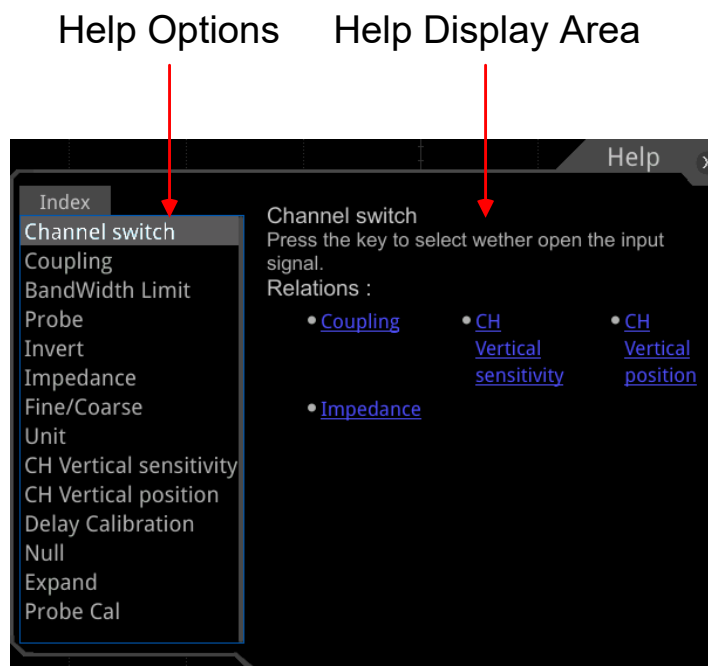

Figure 9.1 Help Information
2. Press the **Content** menu key or tap the "Content" menu item, then the help information is displayed on the screen, as shown in *Figure 9.1*. The help interface mainly consists of two sections. The left section lists "Help Options", and the right section is the "Help Display Area".